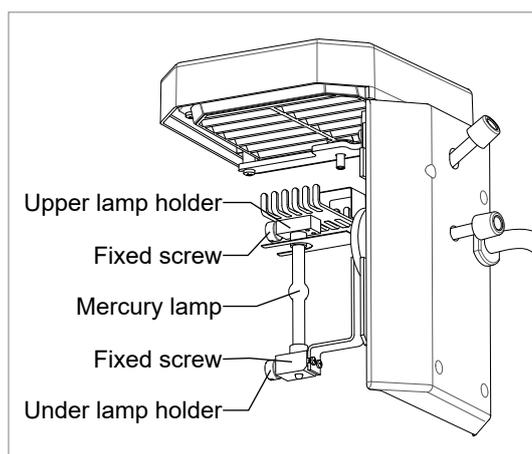

Fig. 8-9
8.4.4 Reconfirm mercury lamp and relevant device are complete are cooling, loosening the two fixed screw. (Fig. 8-9)